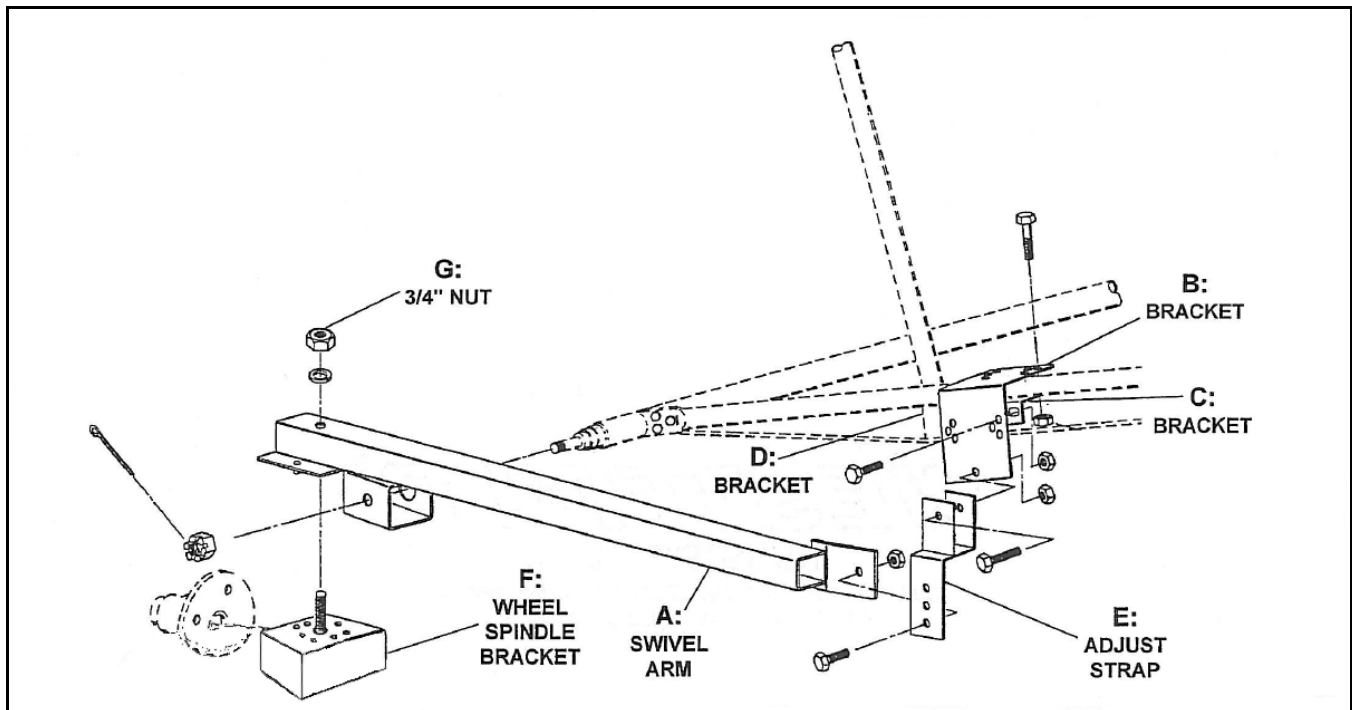

Figure 1 Assembling the Swivel Arc Kit
4. Place appropriate left or right swivel kit arm (A) onto spindle (see Figure 1). Secure arm with 3/4" slotted nut. Tighten snug only. Insert cotter pin.